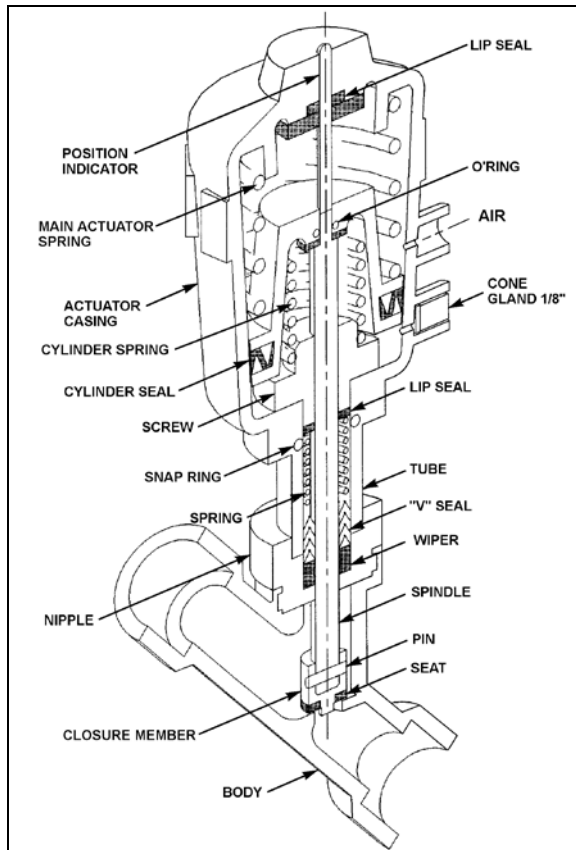

FIGURE 45: DRIVER'S PNEUMATIC WATER VALVE
2. The water valve need not be removed from the line. Unscrew nipple, the actuator casing, tube, spindle and closure member can be removed (Fig. 45).
2. Tighten the nipple in place in the body cavity as per figure 45. Fasten pilot solenoid valve to the pneumatic water valve. Reconnect air supply pressure and electrical current to the pilot solenoid valve.